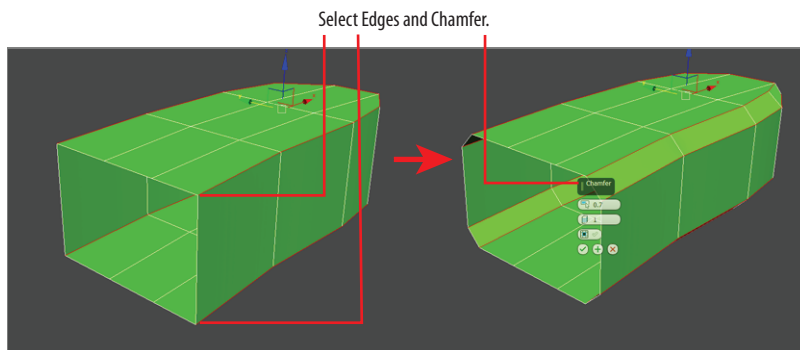

FIGURE 8.27 Select and chamfer the edges running lengthwise along the top and bottom of the hand.
7. Then select the Graphite Modeling Tools tab > Edges > Chamfer > Chamfer Settings, and set Edge Chamfer Amount to 0.7, as shown in Figure 8.27.